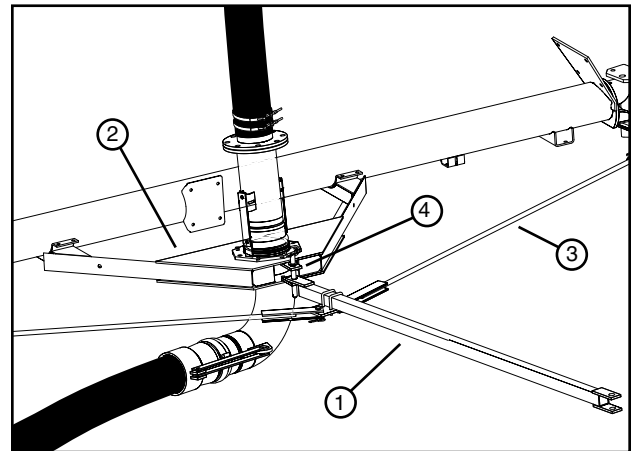

Figure 61-1 1. Tongue 2. Hose Pull frame 3. Tie Rod 4. Torque Pin
1. Attach tongue with tie rods to the hose pull frame with torque pin. See figure 61-1.